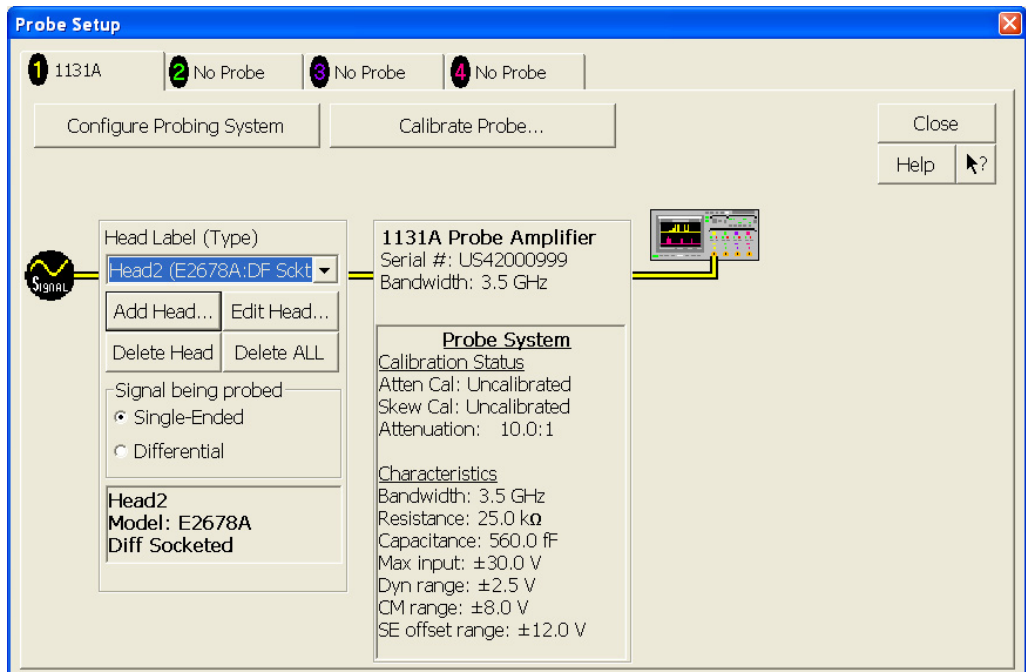

Figure 49 Probe Setup Window.
- 2 Referring to Figure 49 below, perform the following steps: